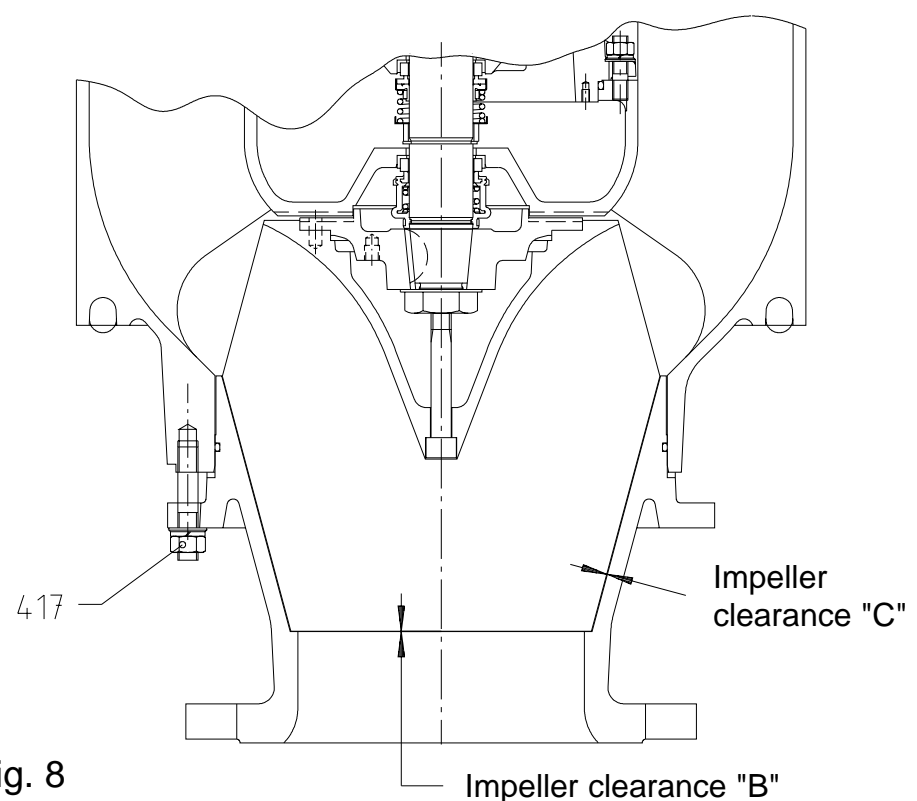

Fig. 8
- When pumping thick sludges or high consistency material, it may be necessary to double the clearances in Figure 8.
- Regulable pumps are adjusted by means of a movable liner (421); its position is regulated by three external regulator nuts (422) found on the suction casing (416) or volute casing (400). These pumps include the letter "R" in the pump code (Section 1.3).
- Other pumps have a one-piece suction cover (402), or in pumps D04A a fixed liner (421); these pumps are adjusted by changing the thickness of the shims (411) between suction cover and the volute casing (400).
With a feeler gauge, check the actual clearance between impeller and liner (reaching in through the suction of the pump). If the clearance "C" is significantly different to the table (Fig. 8), it is possible that the wear is excessive or not uniform: disassembly and inspection is recommended.
To estimate correct shim (411) thickness, lower casing unit into suction cover just until impeller cannot be turned. Measure gap between suction cover and volute casing at several places and take average. Now add the distance "B" (Fig. 8) to the average gap measured; this will be approximate shim thickness required to obtain correct clearance "C" (Fig. 8).
Tighten fasteners (417) again, and with a feeler gauge, check the actual clearance between impeller and liner (reaching in through the suction of the pump). If the clearance "C" is significantly different to the table (Fig. 8), it is possible that the wear is excessive or not uniform: disassembly and inspection is recommended.